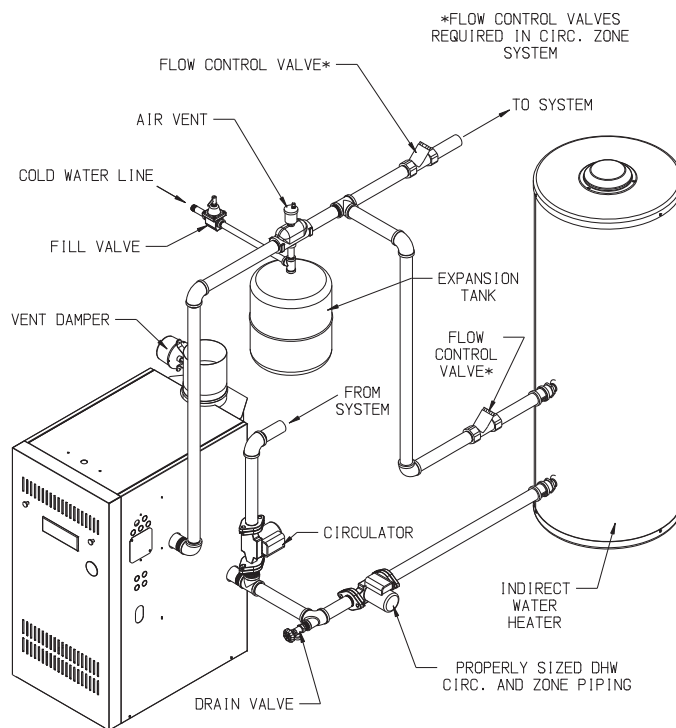

FIGURE 8.4: INDIRECT WATER HEATER BOILER SIDE PIPING
- 2) Indirect Water Heaters - Figure 8.4 shows typical indirect water heater piping. Boiler piping is the same as for any two-zone system. Figure 8.4 shows circulator zoning, which is usually preferred for indirect water heaters. Size the circulator and indirect water heater piping to obtain the boiler water flow through the indirect water heater called for by the indirect water heater manufacturer.